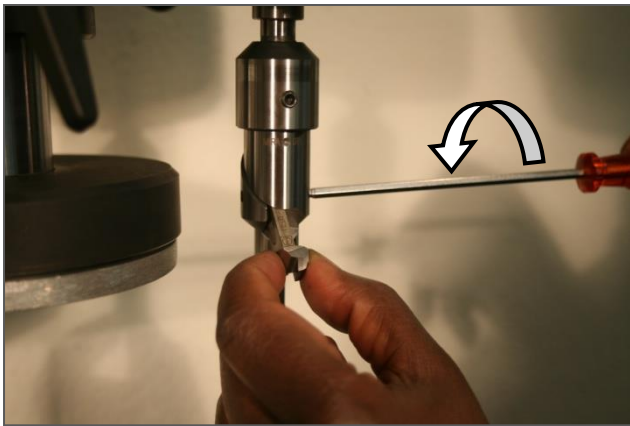

Fig. 11
7. The formtool must be tightened slightly. It must remain moveable for the following adjusting works. Fig. 11